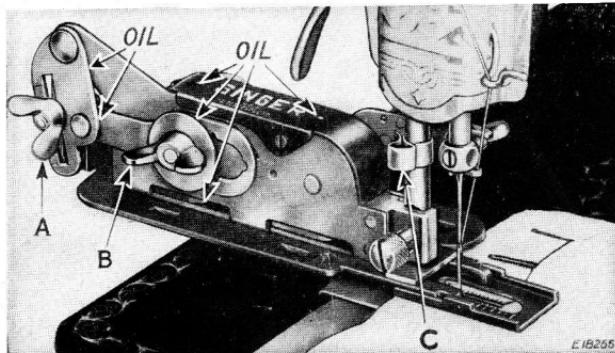

Fig. 3. Left Side, Showing Adjustments and Oiling Points
4. Guide the attachment into position from the rear of the machine so that the fork (D) straddles the hub of the needle clamp, and securely fasten the attachment to the presser bar with the slotted clamping screw (E). Turn the thread cutter (C, Fig. 3) to the left if it interferes with the attachment.
2. Turn the thumb nut (B, Fig. 3) toward you until the feed-ing foot is in its farthest forward position, *i.e.*, closest to you.
Loosen the thumb nut (A, Fig. 3). Move it down in the slot for longer buttonholes, or upward for shorter buttonholes. Using a scrap of material, adjust the spacing of stitches, the bight and the cutting space, as desired.
Loosen the thumb nut (A, Fig. 3), and move it all the way down in the slot to make a one-inch buttonhole, then tighten thumb nut.
Turn thumb nut (B, Fig. 3) to bring the feeding foot all the way forward toward you and around the turn until line 2 at top of the indicator plate is opposite the needle.
Holding the fabric firmly in position with the right hand, raise the attachment gently with the left hand and, with the left hand, turn the thumb nut (B, Fig. 3) so as to bring the feeding foot around the first turn, around the second turn and up until the line indicating the length of the buttonhole desired is opposite the needle.